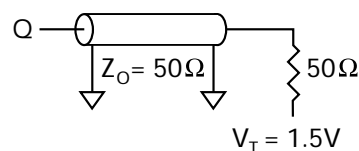

Figure 1
1. Test conditions as specified with the output loading shown in Figure 1 unless otherwise noted.
Output load .....	See Figures 1 and 2